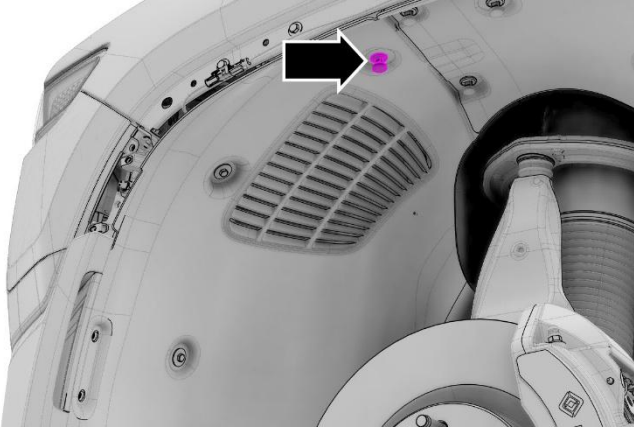

Figure 6
1. Remove the 3 push retainer clips from the wheel liner. (Figures 6 and 7)